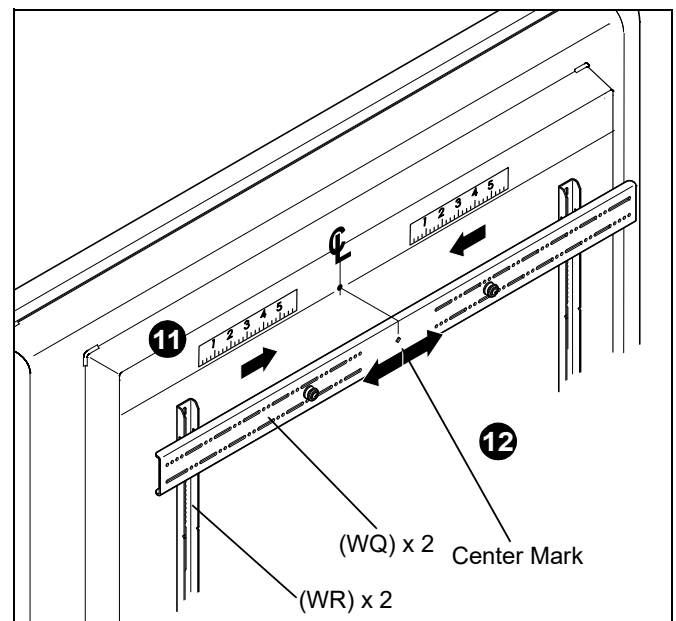
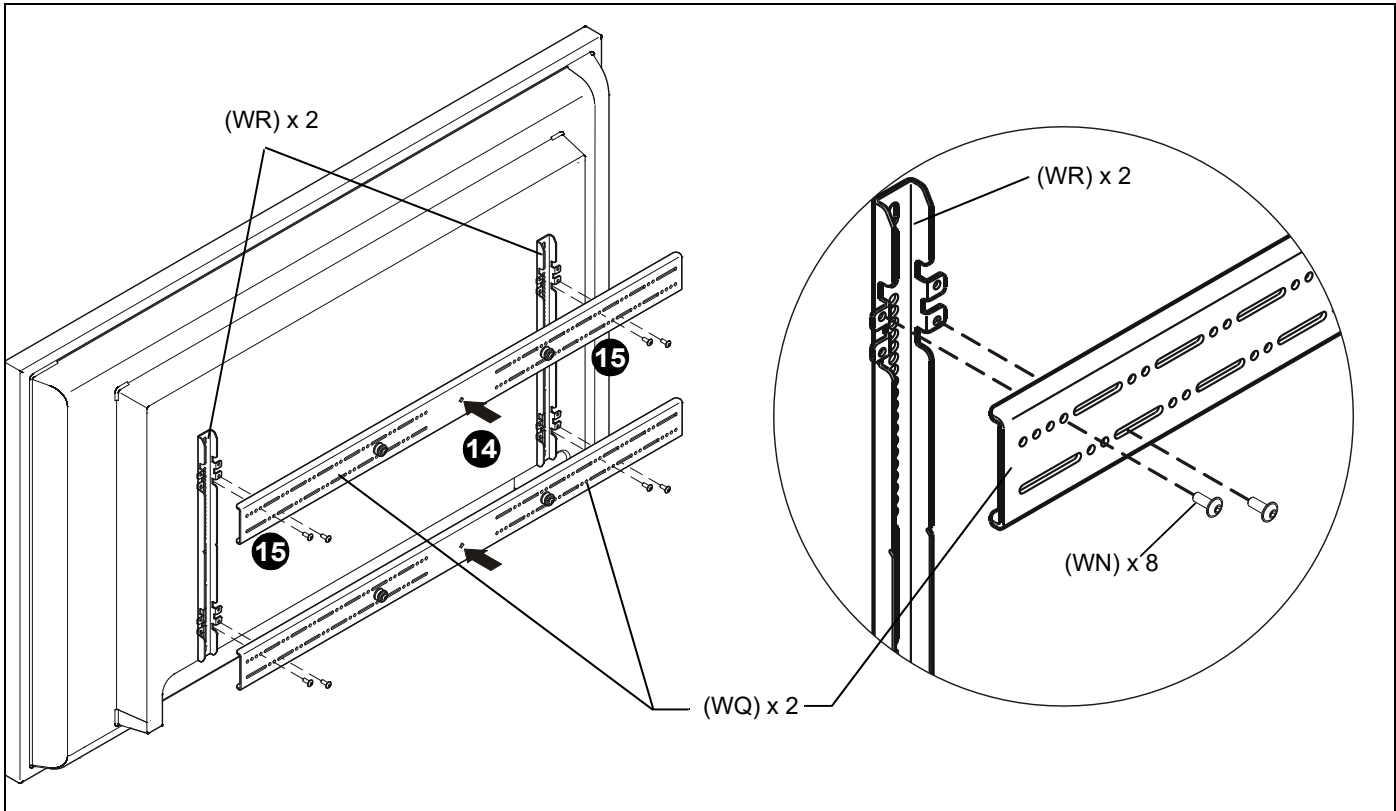

Figure 31
Figure 32
11. Determine and mark the horizontal center position between the Left and Right *TOP* mounting holes in display. (See Figure 31)
12. Determine and mark the horizontal center position between the Left and Right *BOTTOM* mounting holes in display. (See Figure 31)
13. Orient upper horizontal mounting bracket (WQ) so that flanges are facing towards display and resting in recessed area of left and right vertical mounting brackets (WR). (See Figure 31)
14. Adjust Upper horizontal mounting bracket (WQ) position until center diamond in horizontal mounting bracket (WU) aligns with mark made in Step 11, and mounting holes and slots in horizontal mounting bracket (WQ) are aligned with threaded holes in mounting tabs of left and right vertical mounting brackets (WR). (See Figure 31) and (See Figure 32)
15. Use 1/8" hex key (WP) to secure upper horizontal mounting bracket (WQ) to left and right vertical mounting brackets (WR) using four button head flanged screws (WN). (See Figure 32)
16. Repeat Steps 12 through 15 for lower horizontal mounting bracket (WQ).
**IMPORTANT !** : The orientation of, and mounting holes used, when installing the lower horizontal mounting bracket must be the same as the upper horizontal mounting bracket. Vertically align upper and lower brackets by aligning holes or end of slots. (See Figure 32)
**IMPORTANT !** : Whenever possible install mounting screws diagonally as shown in detail in Figure 32.